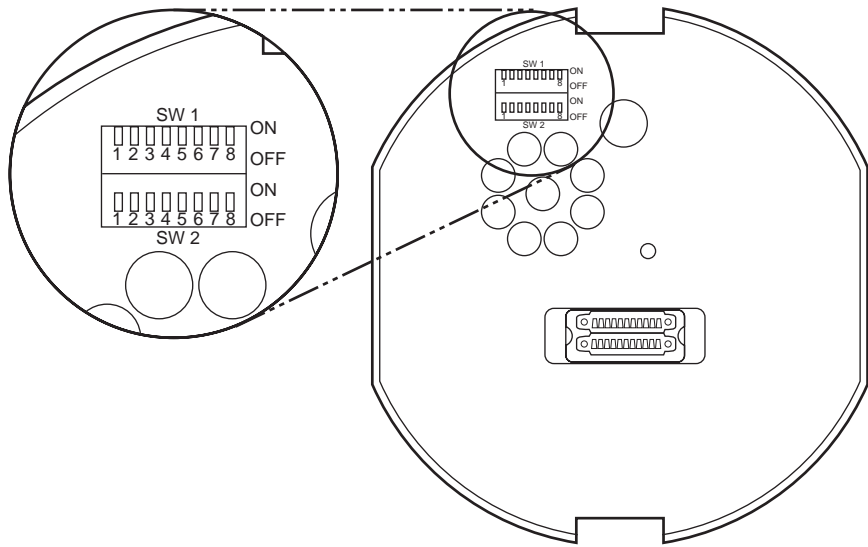

Figure 14. Switch Locations
2. Set the switches on the bottom of the dome drive. Refer to Figure 14 and Table C for the settings for SW1.
Refer to Figure 14 and Tables D and E for the settings for SW2.